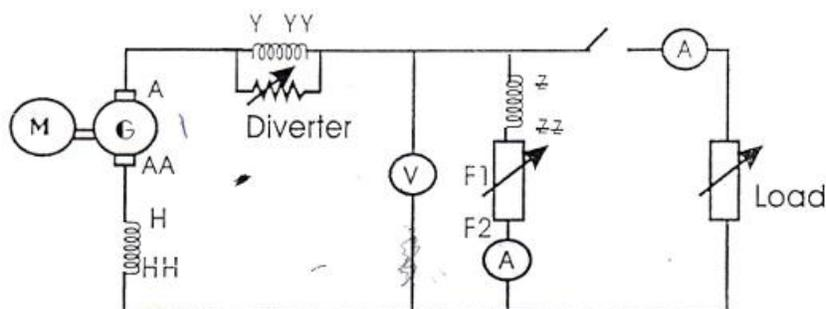

Fig. 3
The compound generator is a combination of shunt and series winding as in (fig3). These winding being usually connected so that their ampere - turns assist one
1. Connect the compound generator (fig3) as cumulative compounded provide. Instruments to read the generator terminal voltage field current and load current.